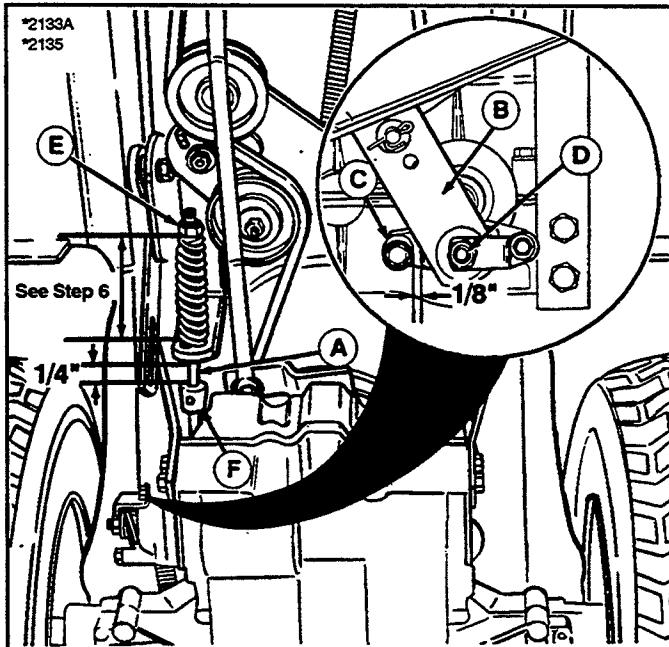

Figure 32. Brake Adjustment - Gear Model
2. See figure 32. Move the brake rod (A) back and forth to be sure there is no tension on the brake pads.
3. Push the cam lever (B) forward (toward front of tractor) to take out any slack. The gap between lever (B) and stop (C) should be $1/8"$ (0.3mm). Use a feeler gauge to measure. If adjustment is required, proceed to step 4.
4. Loosen or tighten the adjustment nut (D) to obtain the correct dimension.